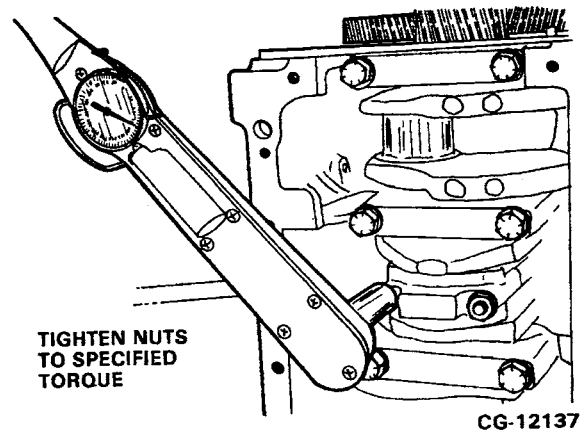

Figure 6.60. Tighten Connecting Rod Nuts
2. Install the nuts by hand onto the rod bolts finger-tight. Tighten the nuts to the specified torque. Refer to Figure 6.60.